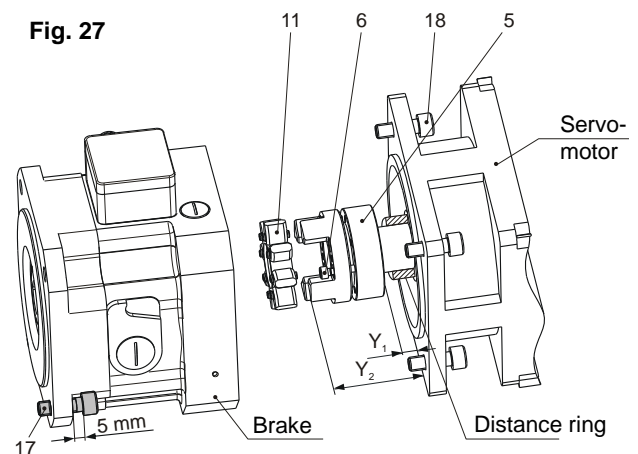

Fig. 28
3. Screw in the cap screws (17) for the brake/machine (leave approx. 5 mm stroke, see Fig. 28).
4. Adjust the output-side shrink disk hub (1) using axial movement to the installation dimension "W" acc. table in section **4.5**. We recommend an adjusted distance ring as a fixed limit stop.
5. Tighten the cap screws (2) stepwise (in 3 to max. 6 tightening sequences) and cross-wise to the tightening torque acc. table in section **4.5**.
6. Pull the brake back to contact on the screw heads (17) (fixing screws for brake/machine), then push them again against the machine (reason: release of the rotor (22)).
7. Tighten the cap screws (17) for the brake/the machine.